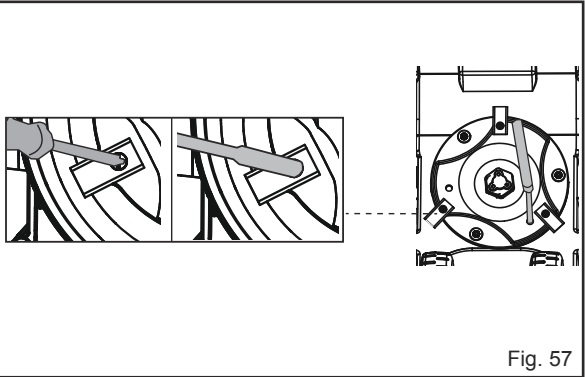

Fig. 57
- Wear protective gloves and use a screwdriver or hexagonal socket wrench to remove all three screws and blades (Fig. 57).